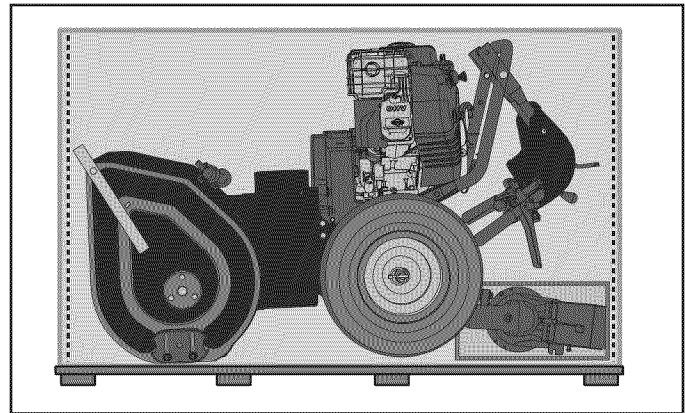

Figure 3. Snowthrower - Shipping Position
1. Remove banding from crate. Open carton completely by cutting each corner from top to bottom as shown in Figure 3.